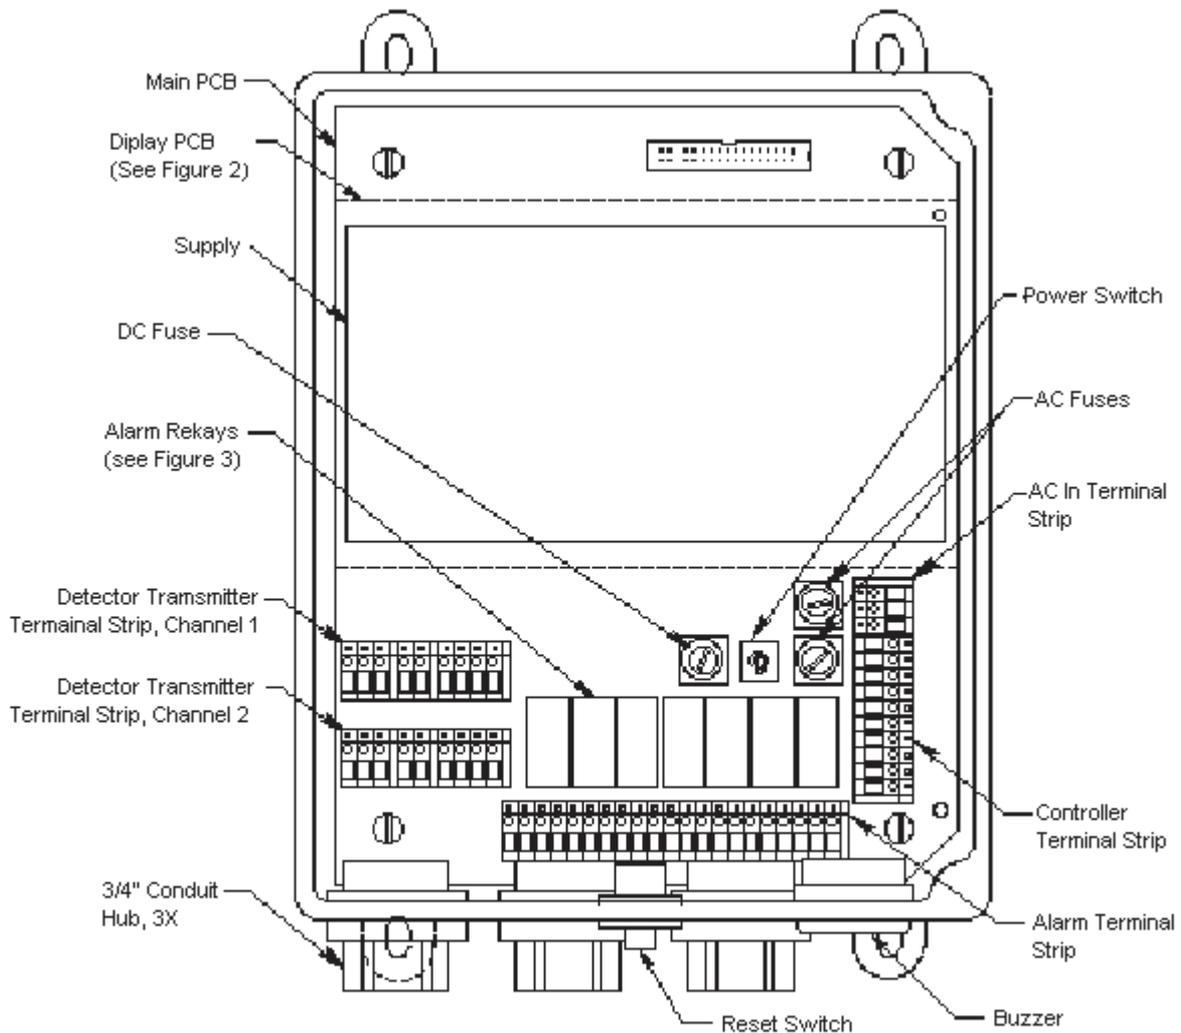

Figure 1. Beacon 200 Gas Monitor Component Location
The AC in terminal strip is a 3-point terminal strip located above the controller terminal strip (see Figure 1). It facilitates wiring from the AC power source. Table 4 lists the function of each terminal.
- **Channel relays.** The four channel relays are above the alarm terminal strip (see Figure 1). These relays are dedicated to specific channels and alarm levels.
- **Common relays.** The three common relays, alarm 1, alarm 2, and fail, are to the left of the controller terminal strip (see Figure 1). These relays are common for both channels.
The power switch is located above the relays and in between the AC and DC fuses (see Figure 1). The power switch turns the incoming AC power source on and off at the GasScanner 2C. When the switch is up, the power switch is on.
4. Locate the 3-point AC in terminal strip (see Figure 1). The terminals are labelled LINE, NEUT, and GND.